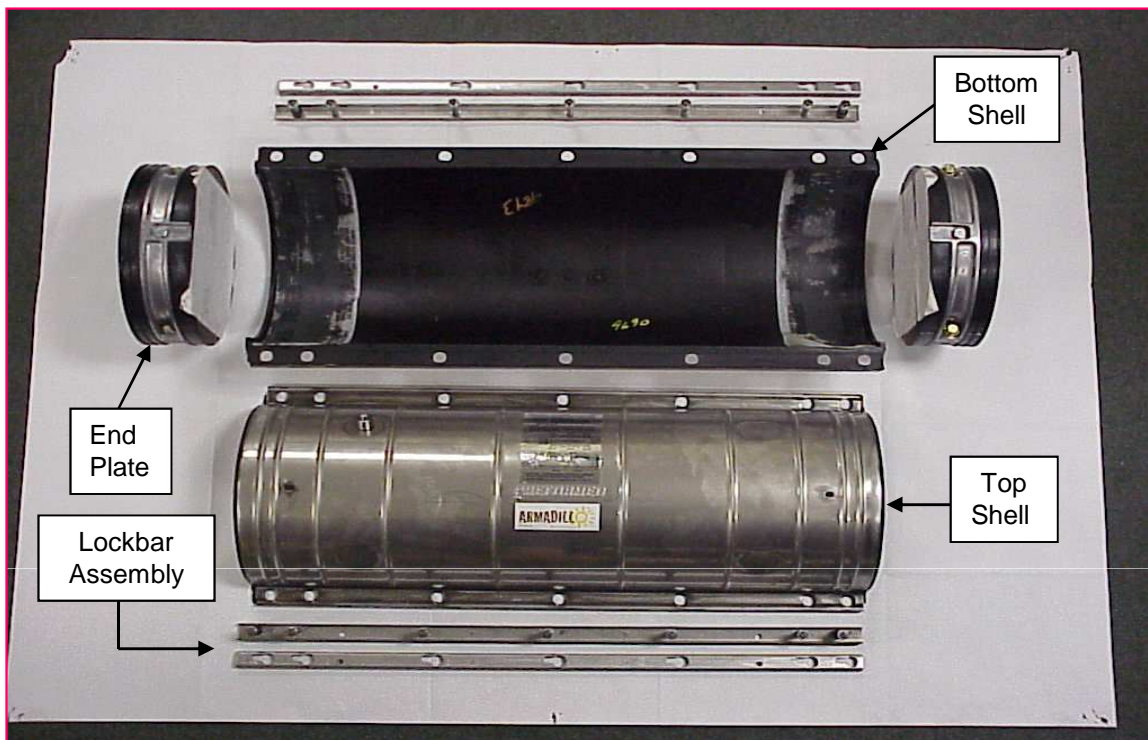

Figure 4
7.3 At both repair points, install Splice Case Kits in accordance with Sumitomo Recommended Procedure SRP SP-F04-015. **See Fig. 4.**